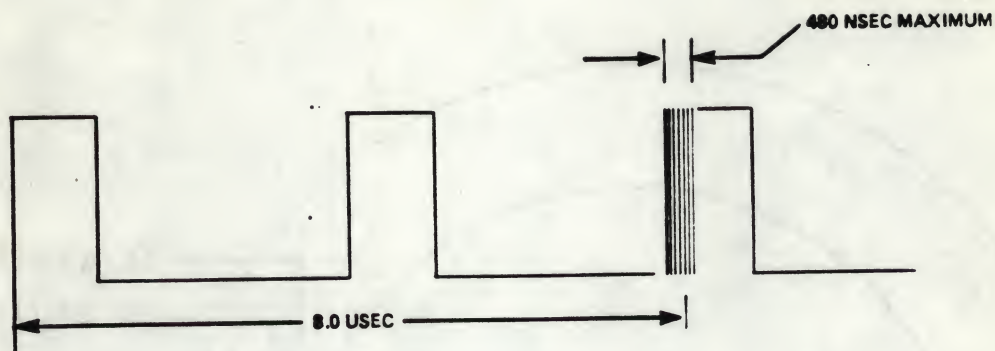

Figure 2-3
2.1.2.4 Observe the following pattern (see Figure 2-3).
- 2.1.2.5** Measure the amount of jitter present on the leading edge of the third pulse (see Figure 2-3). Jitter on the third pulse of greater than ± 240 nsec (480 nsec edge-to-edge) indicates excessive ISV.